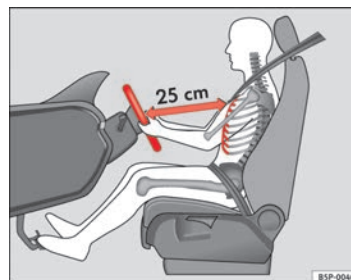

Fig. 134 Proper sitting position for driver
- Adjust the steering wheel until the correct position is set ⇒ fig. 134.
- Adjust the driver seat or steering wheel so that there is a distance of at least 25 cm between the steering wheel and your chest ⇒ page 171, fig. 134. If you fail to observe the minimum distance, the airbag will not protect you. Risk of fatal injury.